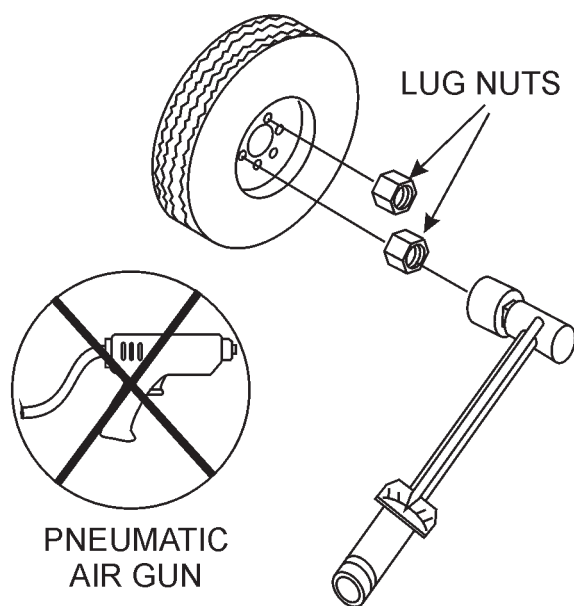

Figure 22. Wheel Lug Nuts Tightening Sequence
2. Torque all lug nuts in sequence. See Figure 22. **DO NOT** torque the wheel lug nuts all the way down. Tighten each lug nut in 3 separate passes as defined by Table 9.